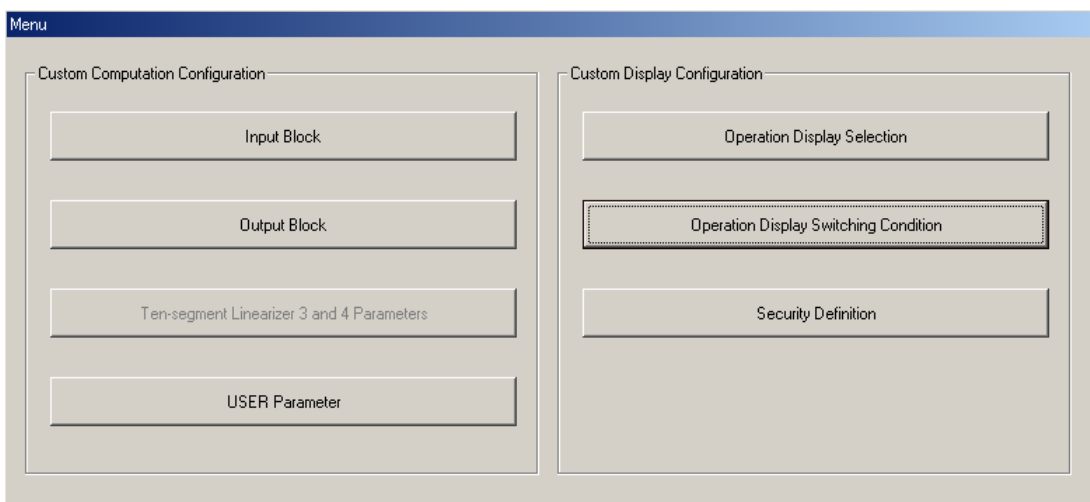

Figure 5.2.8 [Custom Computation Configuration Menu] dialog box
- (5) Click the <OK> button. When you complete the registering. The [Operating Display Selection] dialog box closes and the [Custom Computation Configuration Menu] dialog box (Figure 5.2.8) appears.
- (3) Click the <OK> button. The [Setting DISP1 and DISP2 Display Characters] dialog box closes.
- (4) After registering the operating displays, click <OK> button of [Operating Display Selection] dialog box. The [Custom Computation Configuration Menu] dialog box (Figure 5.2.8) appears.